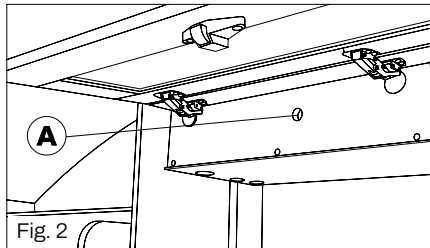

Fig. 2
Step 2 Locate the bed motor compartment. It is housed in the front cabinets, on the right or left side, depending on the type of vehicle, and is identifiable because it has an opening **A** inside, into which the rod will be inserted (Fig. 2).